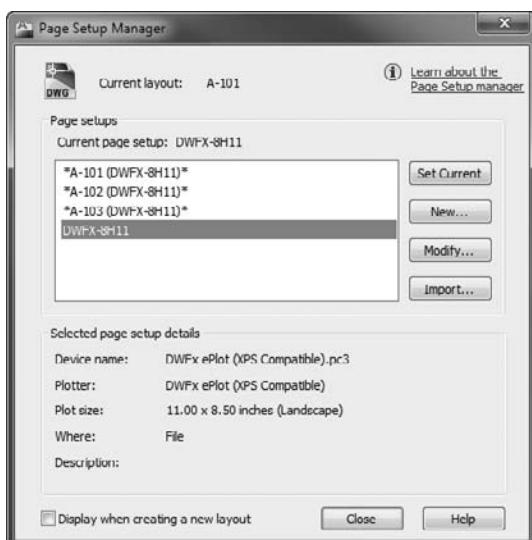

FIGURE 15.17 Accessing the DWFX-8H11 page setup from the Page Setup Manager dialog box
3. Right-click on the Quick View Layouts button in the status bar, and select Page Setup Manager. This will open the Page Setup Manager dialog box shown in Figure 15.17.